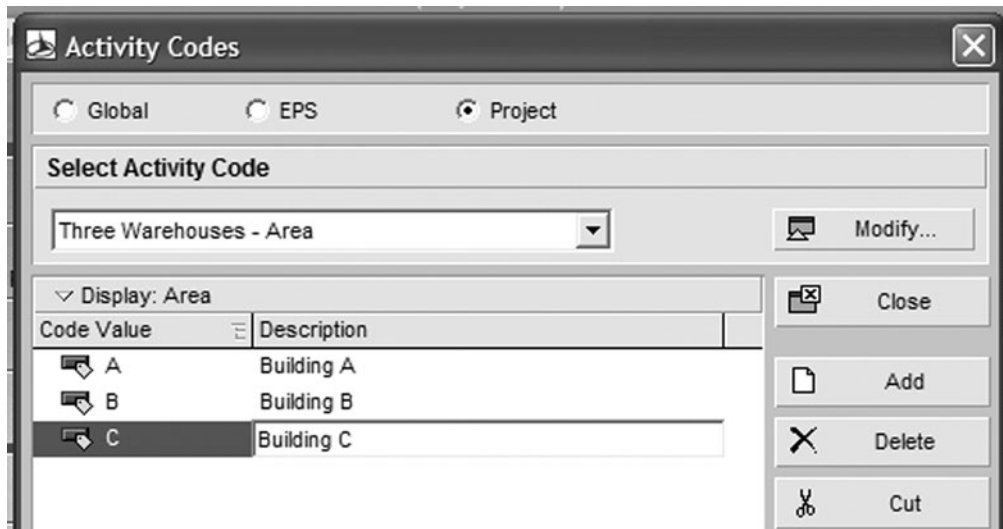

FIGURE 23.33 The Activity Codes Window with the areas added
1. After copying the project and giving it a new name, the first step is to create a **new activity code** named **Area** with code values of **A**, **B**, and **C**. Select **Dictionaries** from the menu line, then **Activity Codes**, **Modify**, **Add "Area"**, **Close**. Then **Add**, **Code Value "A"** with a **Description of "Building A"** and repeat the same for buildings B and C. The Activity Codes window should look similar to Figure 23.33.